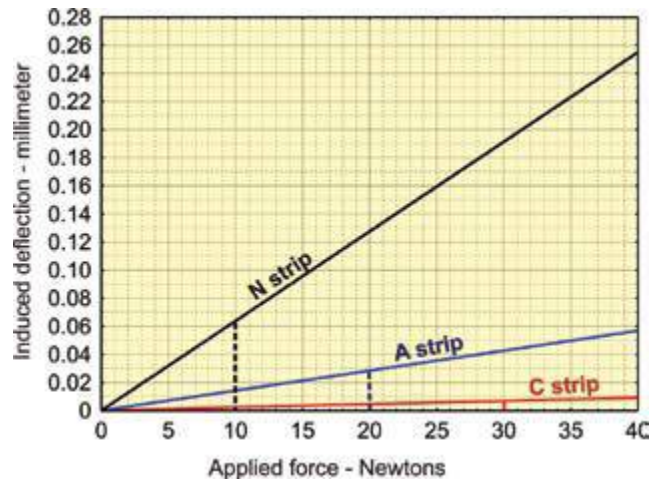
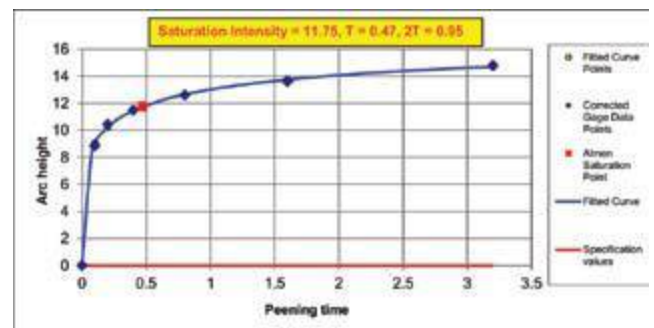

Fig.10. Estimated as-clamped deflection of Almen strips as a function of applied force.
Fig.11. Analyzed Saturation curve for N strips using fixed peening conditions.
The deflection of a clamped Almen strip can be estimated using a combination of equations (3) and (4). A combination is needed because the shot stream can no longer be regarded as applying a load at one particular point. The divisor parameter lies somewhere between 4 and 6.4. Fig.10 shows the estimated flattening that can be predicted for three thicknesses of Almen strip and assuming a divisor value of 5.2 (average of 4 and 6.4). Note that the deflection developed during peening of clamped Almen strips is about one-third of the deflection on release from the holding bolts.
Consider first an N strip being peened by a shot stream exerting a force of 10 Newtons. The shot stream will fully flatten the N strip against its block until the as-clamped deflection reaches 0.06 mm (.002"). (The prediction is given in fig.10.) With greater as-clamped deflections, the shot
Equation (8) predicts that it becomes progressively more difficult to generate indents as shot peening progresses. The effect would be greater for N strips than for A and C strips. This should be reflected in it taking longer to achieve a given level of coverage. Verification can be obtained by comparing the time, T, which it takes to reach the peening intensity point on a saturation curve – using a fixed intensity of shot stream. Figs. 11 and 12 are examples of saturation curves produced using such fixed shot stream conditions. The 'fixed conditions' used in producing the data for figs.10 and 11